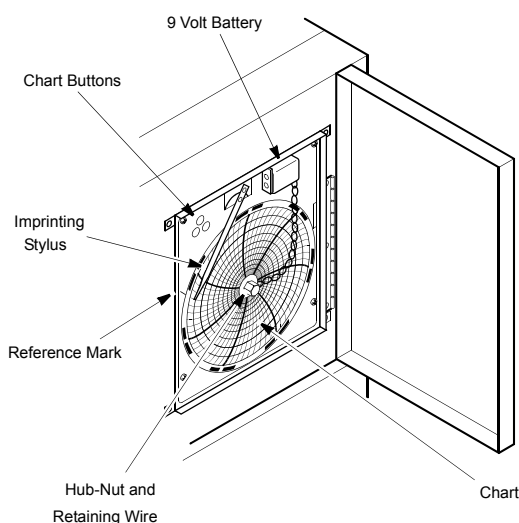

Figure 5. Six Inch Chart Recorder
3. Unscrew the center nut, remove the old chart paper, and install new chart paper. Carefully align the day and time with the reference mark on the recorder panel (a small groove on the left side of the panel, shown in Figure 5).